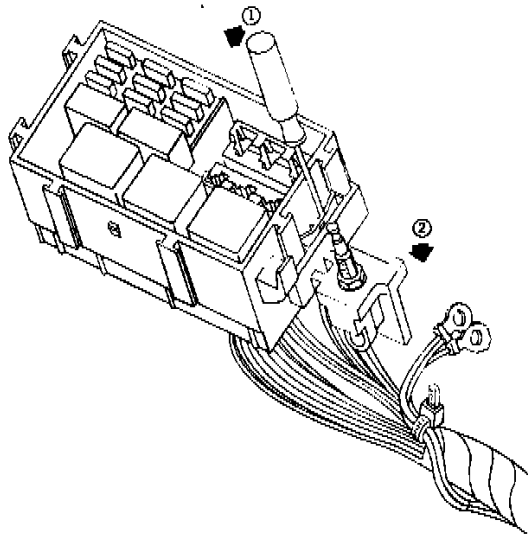

FIGURE 6
12. Release retaining tab, then slide stud assembly from electrical center (Figure 6).